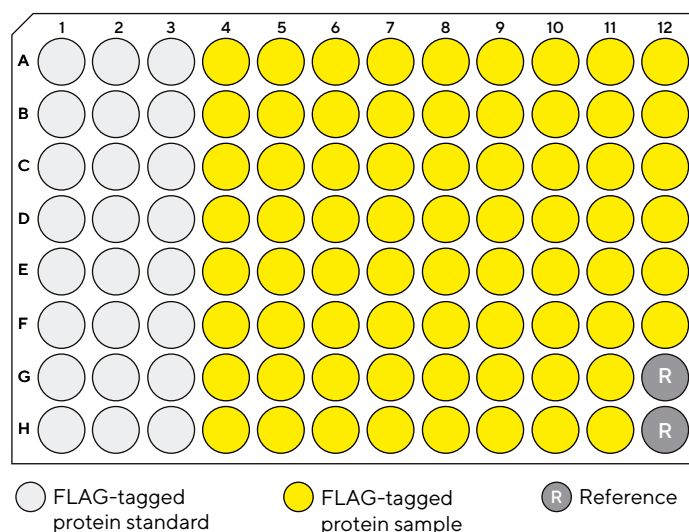

Figure 5. Example plate layout for a routine quantitation assay in a 96-well plate.
2. Set up a Basic Quantitation assay using the parameters described previously in the optimization experiments. See Figure 5 for example assay set up.